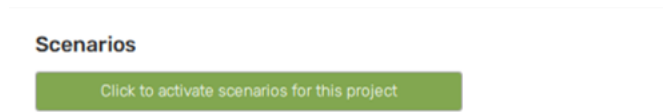

Figure F.1: Shows how scenarios is activated in a LCAbyg project.
Scenarios is activated under "Building and operation" with the button *Click to activate scenarios for this project* see Figure F.1.
STEP 2	Go to the tab Building and operation and activate scenarios with the green button, see Figure F.1.